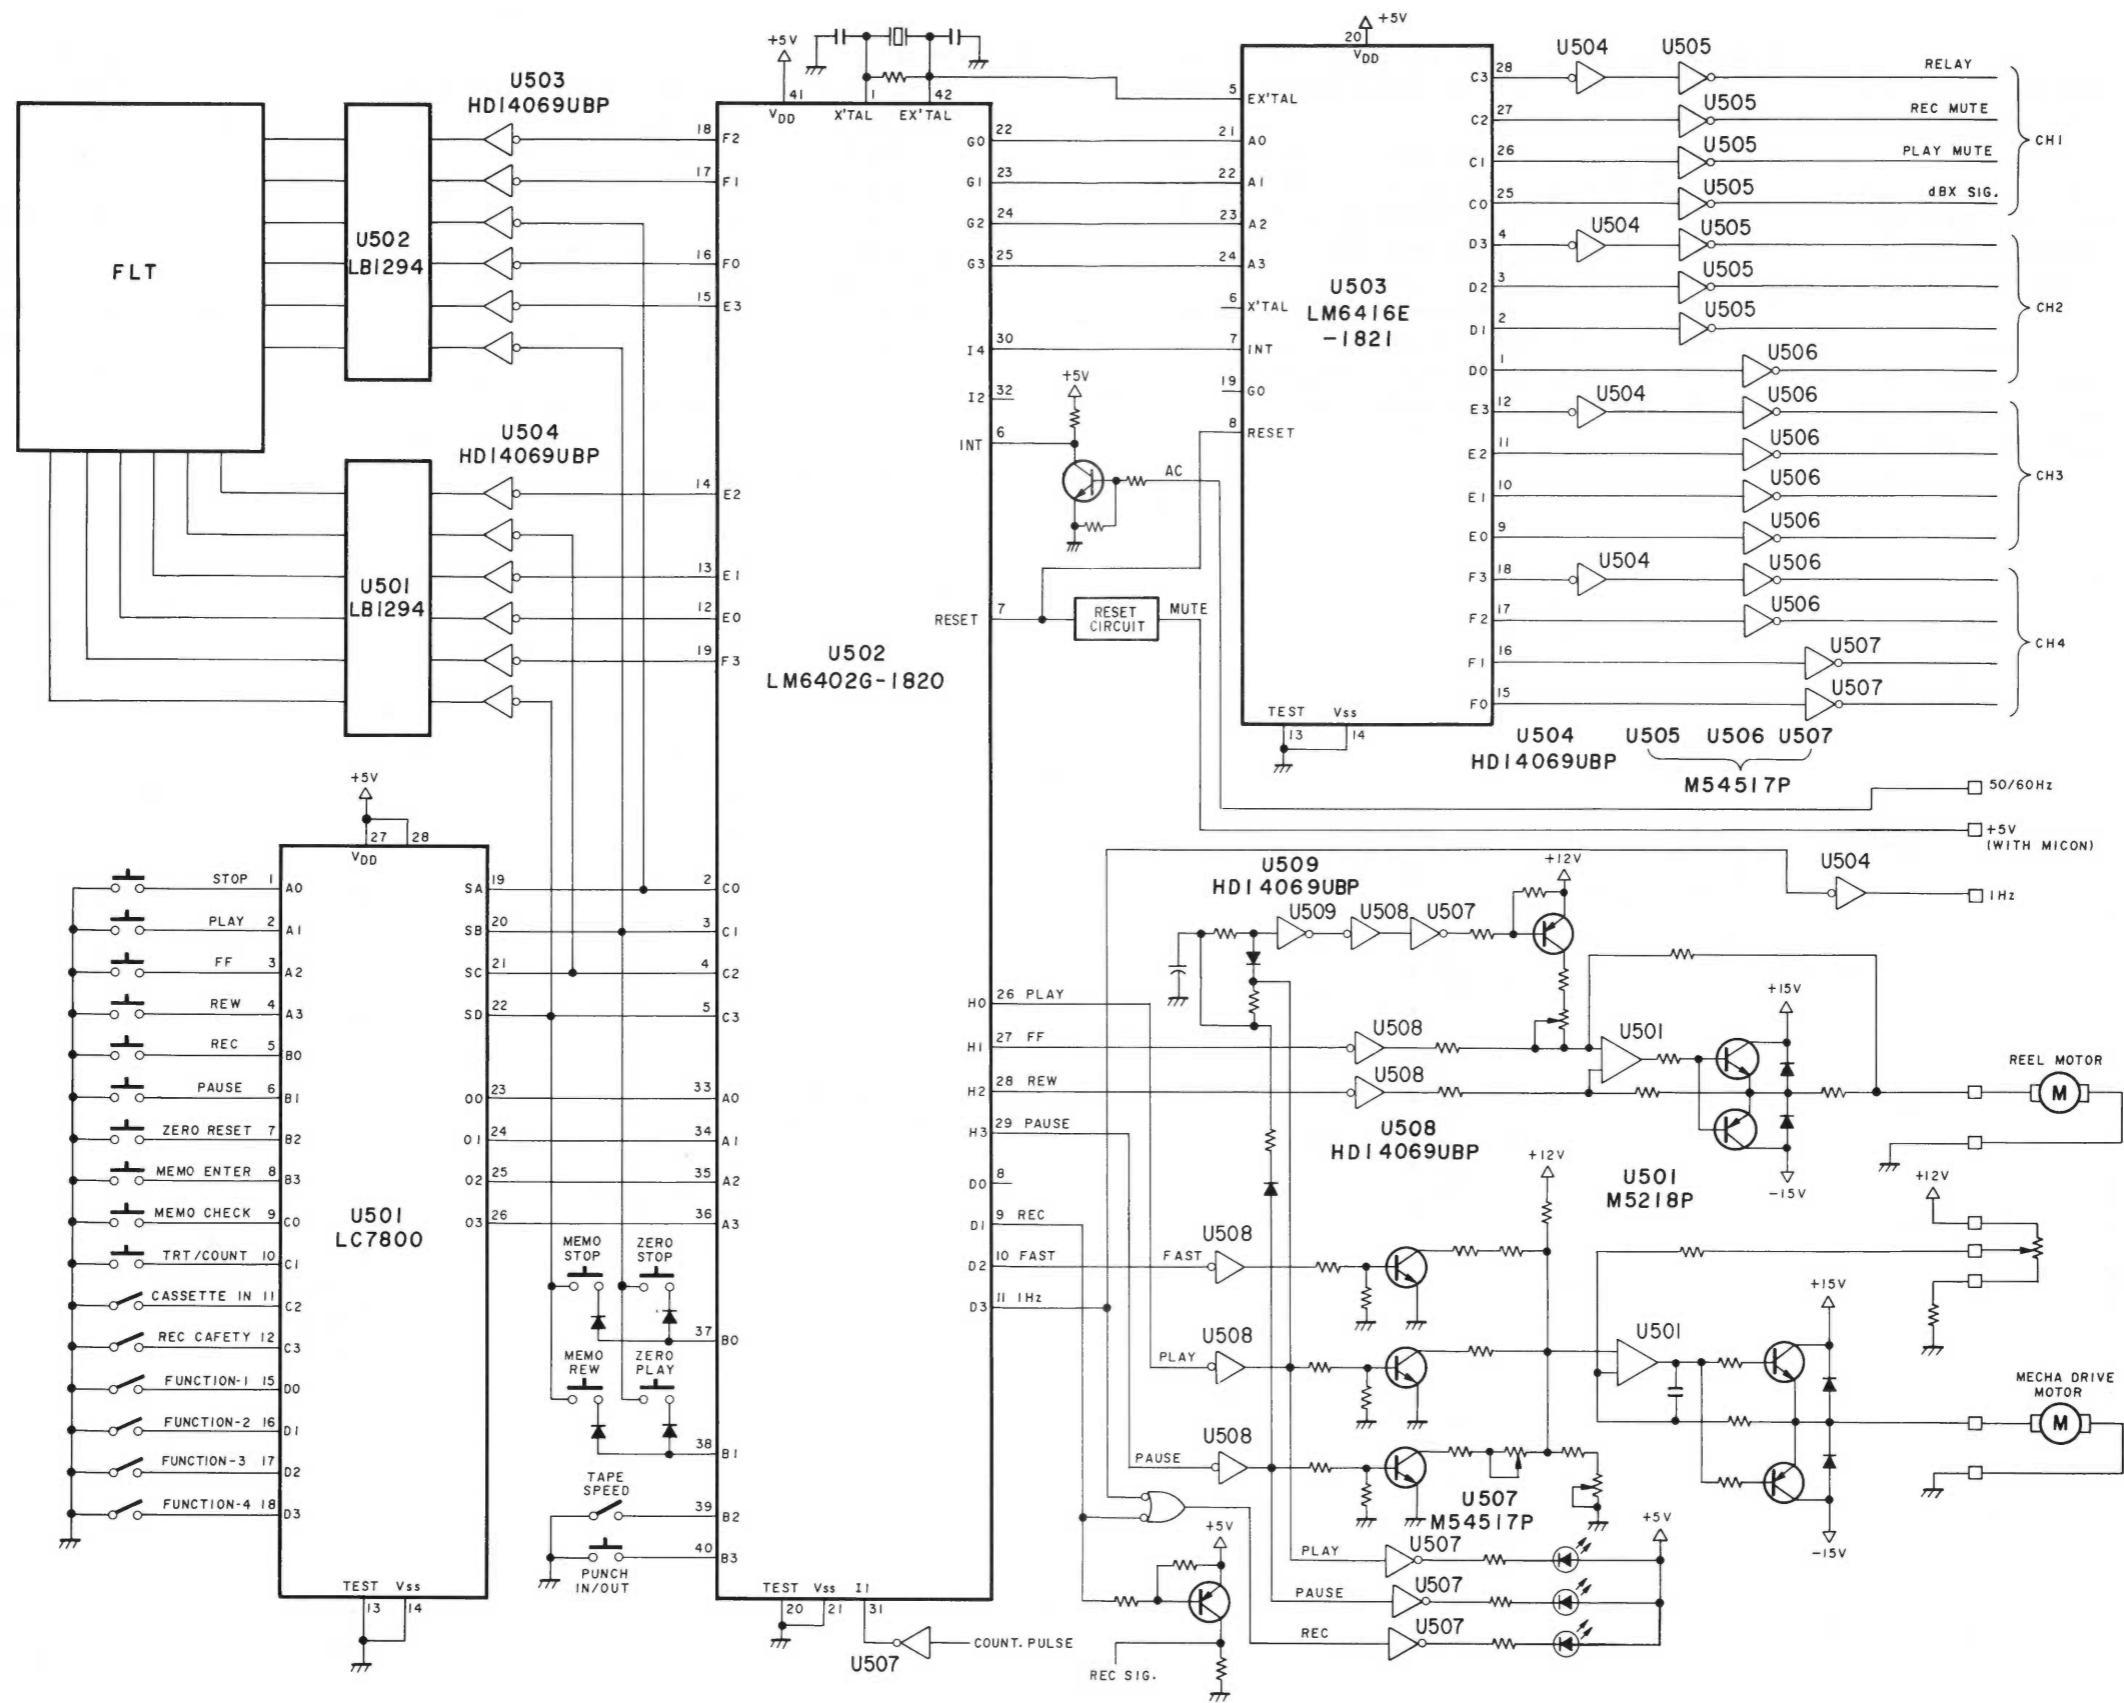
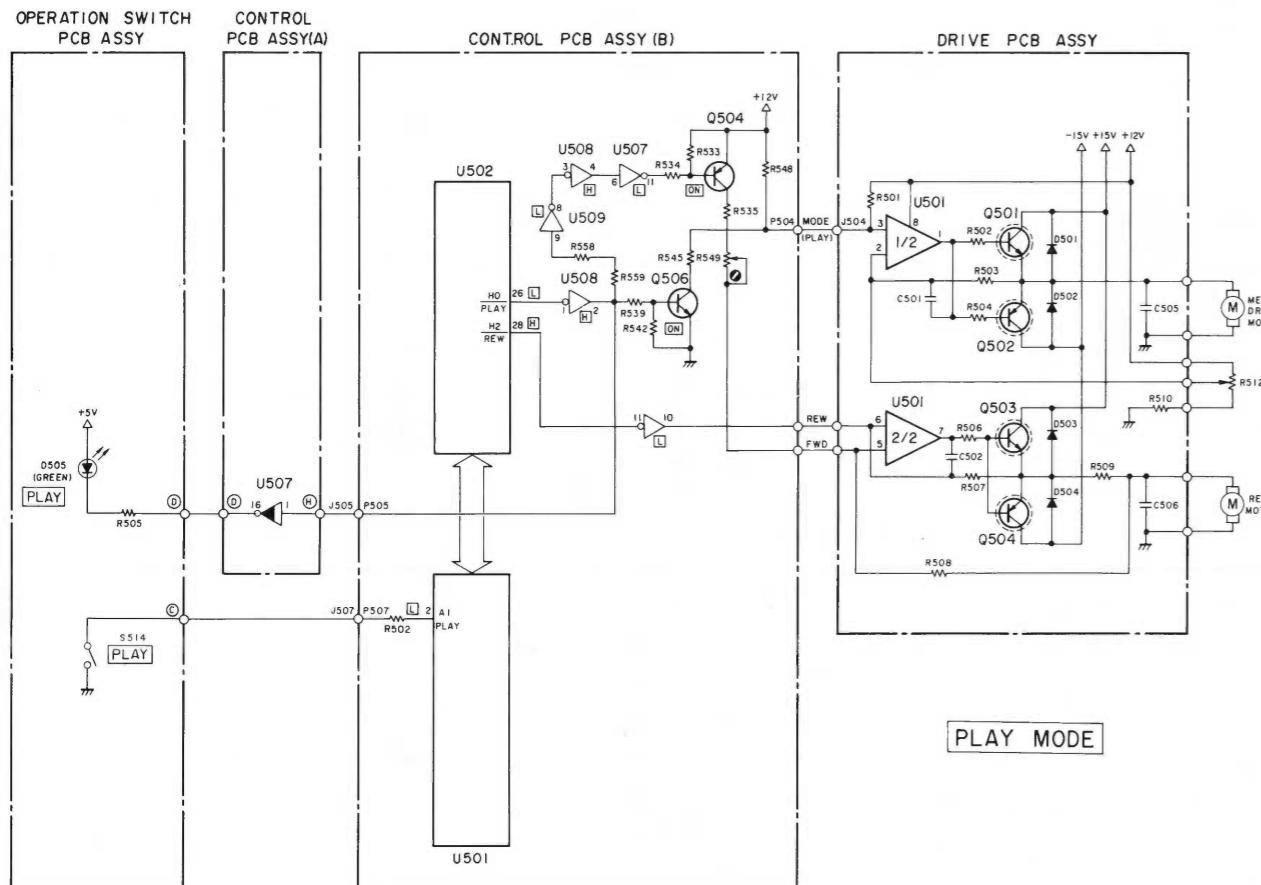

Fig. 2-2
Fig. 2-3
The control circuit, as shown in Fig. 2-2, consists of the main unit composed of four-bit single tip microcomputer (U502), input-port extension interface IC (U501), and output-port extension interface IC (U503), and the logic circuits.
- 1) The input-port extension IC U501 is composed as shown in Fig. 2-1 and operation switches of the deck are connected to its input terminals as shown in Fig. 2-2.
- 2) Output terminals (C0 – C3) of the microcomputer U502 generates four-phase scanning pulses as shown in Fig. 2-2, and they are connected to the terminals SA – SD of U501.
- 4) However, as for zero stop, zero play, memory stop and memory REW, U501 is not used but a separate circuit is used as shown in Fig. 2-2.
- 1) When the PLAY switch is pressed, PLAY terminal in the Fig. 2-2 turns to L and A1 terminal of U501 also turns to L (refer to Fig. 2-3).
- 4) As pin 2 of U508 turns to H level, pin 16 of U507 in the CONT (A) PCB Assembly turns to L level, lighting PLAY LED D505 as a result.